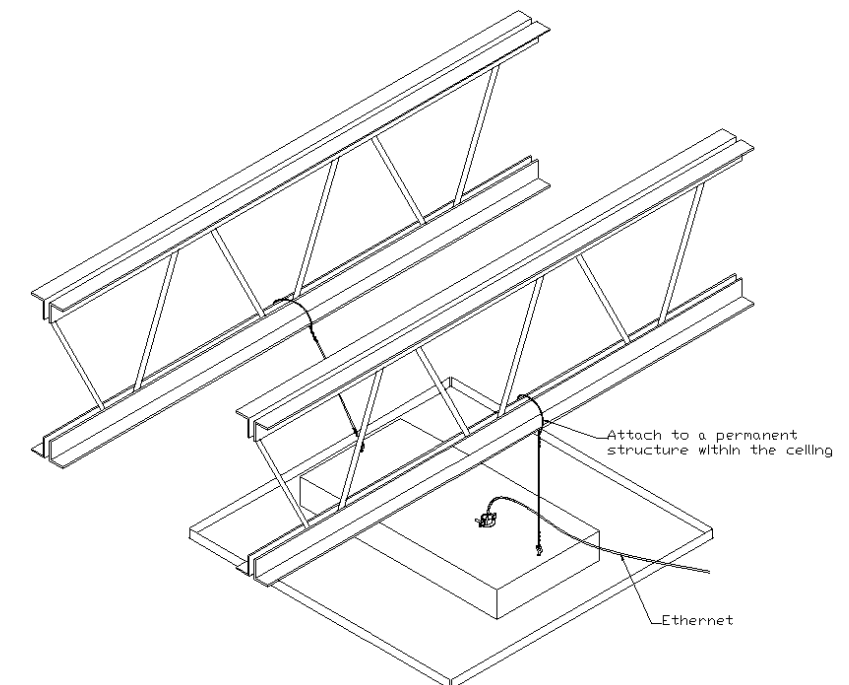

Figure 4 – Installation of grid wires and Ethernet cable.
Step 5 – Use minimum 12-gauge grid wire to attach the *AP mount* to the ceiling. Attach one end of the wire to the *support tabs* and the other end to a permanent structure within the ceiling such as a ceiling joist (reference *Figure 4*).